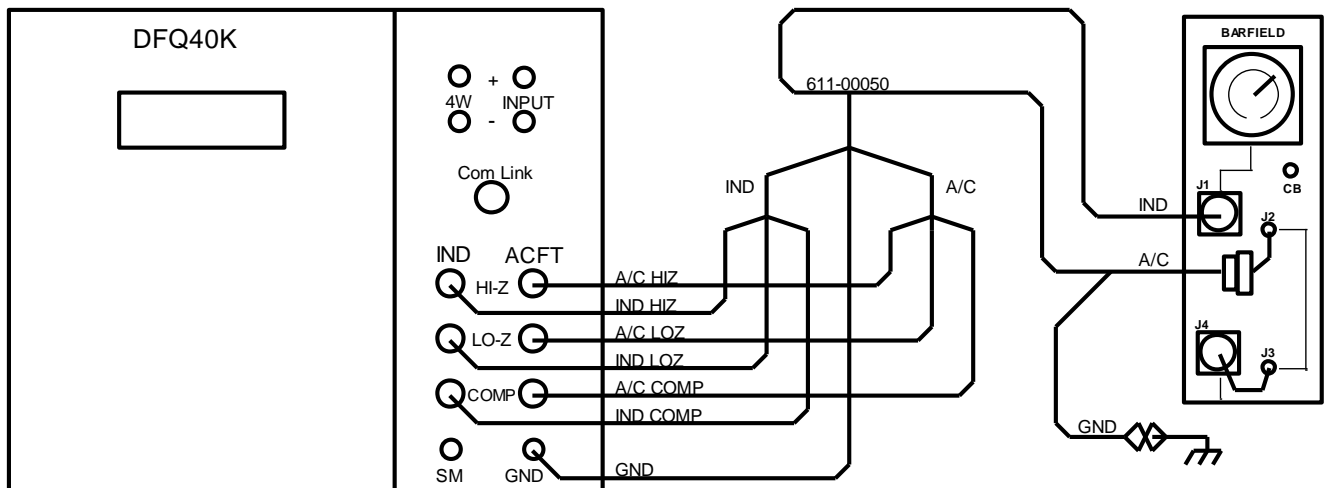

Figure 2 SYSTEM INSULATION CONFIGURATION
- (1) Connect Adapter Cable P/N 611-00050 as per Figure 2 and the following steps.